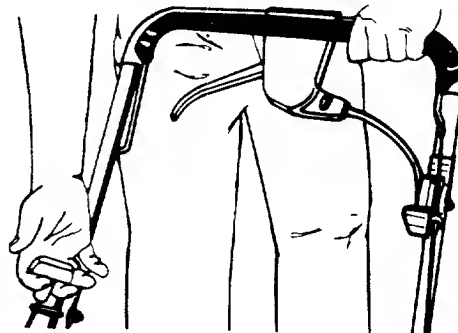

FIGURE 6.
3. Standing behind the unit, depress the blade control handle and hold it against the upper handle as shown. See figure 6.
4. Grasp starter handle (see figure 6) and pull rope out slowly until engine reaches start of compression cycle (rope will pull slightly harder at this point). Let the rope rewind slowly.